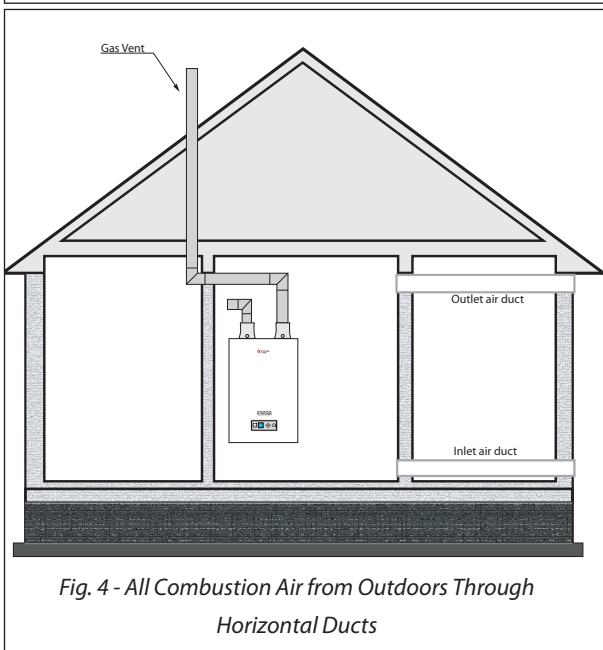

Fig. 4 - All Combustion Air from Outdoors Through Horizontal Ducts
- Where communicating with the outdoors is through horizontal ducts, each opening shall have a minimum free area of not less than 1 sq.in./2000 Btu/hr [645 mm² per 586 W] of total input rating of all equipment in the enclosure. See Fig. 4 below.